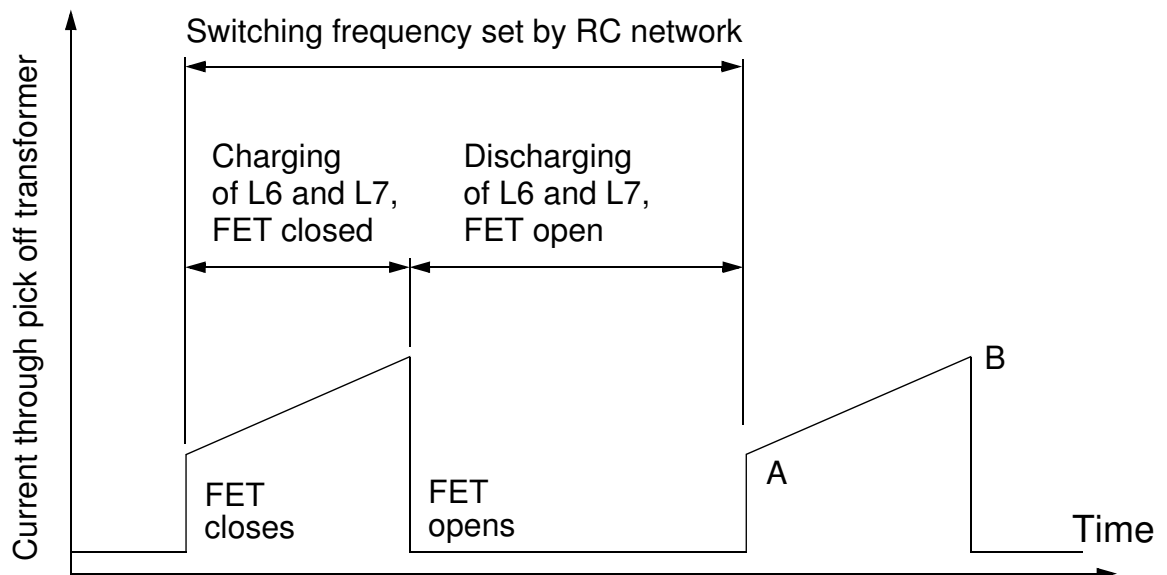

Figure 4.4-2. Current through the Pick off Transformer as a Function of Time
When the FET is opened (non-conducting) the flyback voltage in the inductors causes the voltage at point “A” of Figure 4.4-2 to increase with time. During this event current flows out of the inductors, through CR10, to B+.
2. Check the fuse on Head Board #2, Figure 4.4-2.